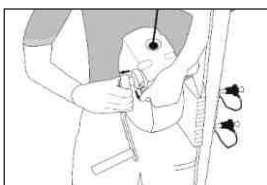

Fig. 6
- 1) Make sure that the fall arrester is in fall arrest mode: the wire rope reels in and out, the handle does not rotate. If it is not the case, pull the button located next to the rotation axis of the handle and bring the rotation axis in until the green ring is totally invisible. Release both the button and the axis; the green ring should remain invisible (Fig. 6).